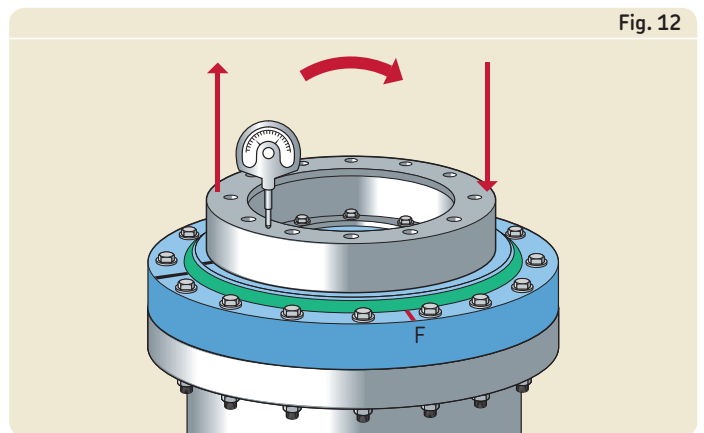

Fig. 12
- 15 Measure the tilting clearance of the installed bearing in the main load line with the aid of a dial gauge by applying a defined tilting moment (→ **fig. 12**). Check 180° from the measuring point to be sure that the radial clearance is virtually zero. Mark the measuring points on the adjacent component and note the measured clearance on the installation report.